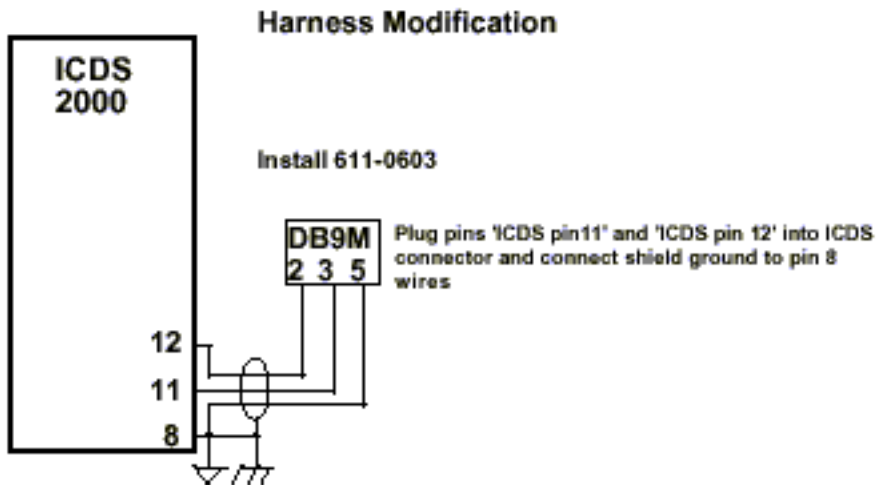

Figure 10.1.2
2. Refer to **Figure 10.1.2** and install the pins (labeled 'ICDS Pin-11' and 'ICDS Pin-12') on the end opposite the DB9 connector into the corresponding holes of the 100-pin ICDS 2000 connector.